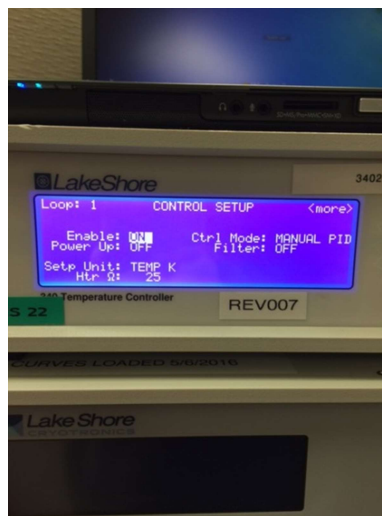

Figure 7
2.2 Using enter key, select enable (Figure 7).
2.3 Using selection arrow keys, select enable on (Figure 7).